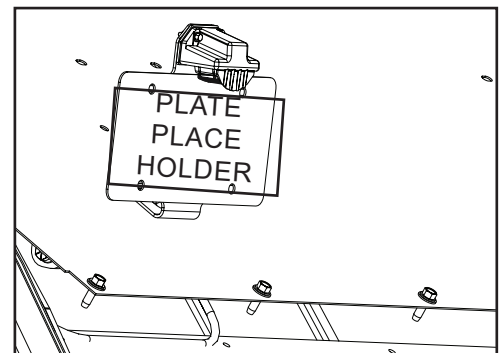

Figure 4
8. Reinstall the license plate with its hardware (Figure 4).
10. Turn the vehicle on and check the functioning of the license plate light (Figure 4).